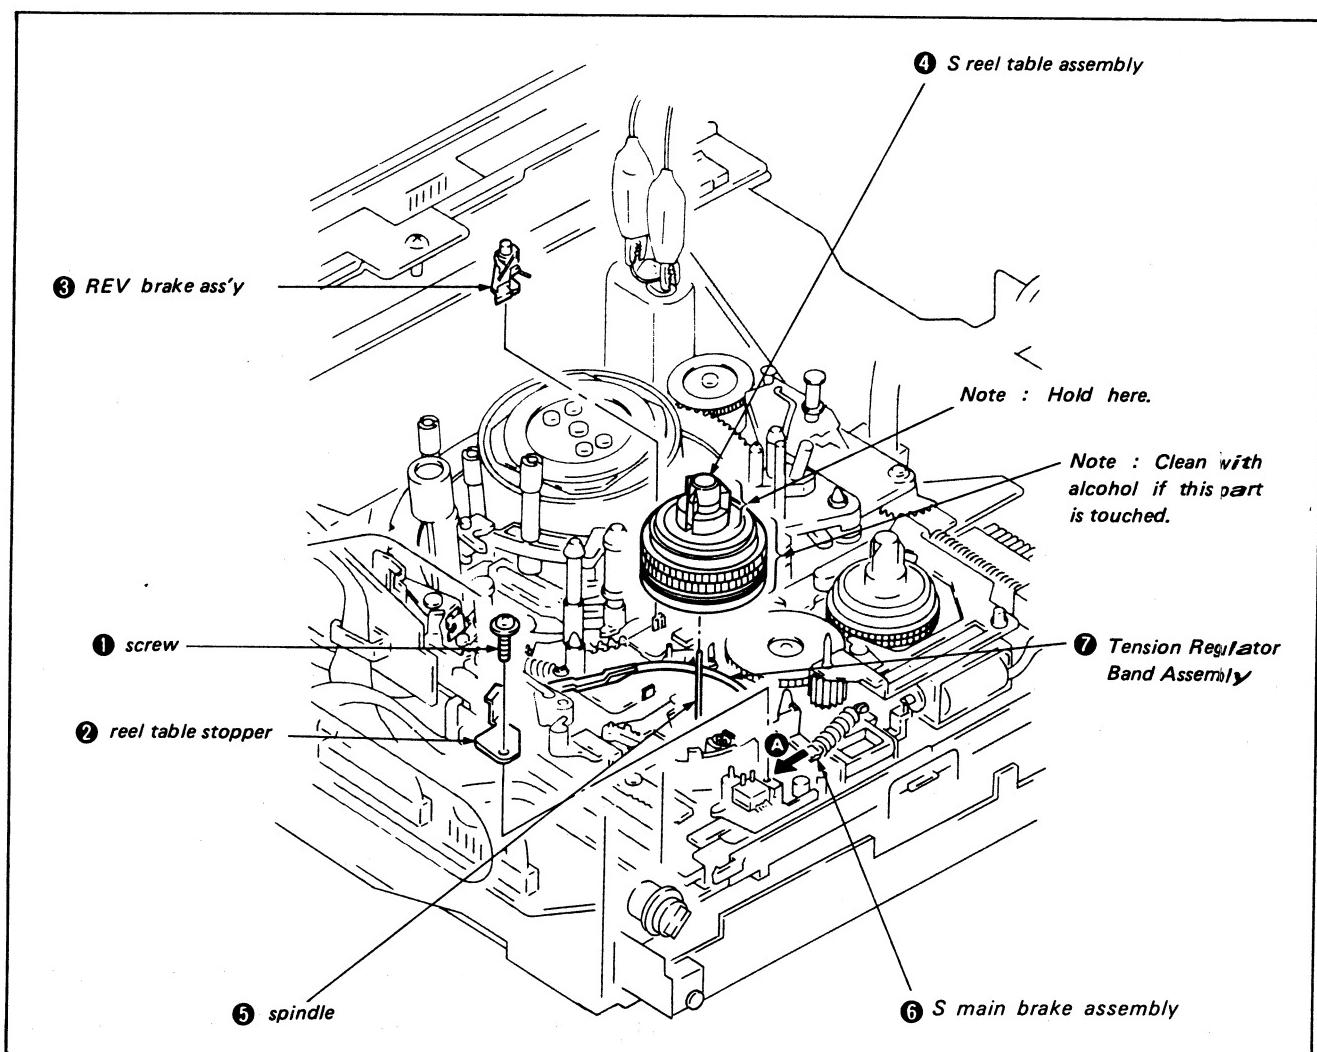
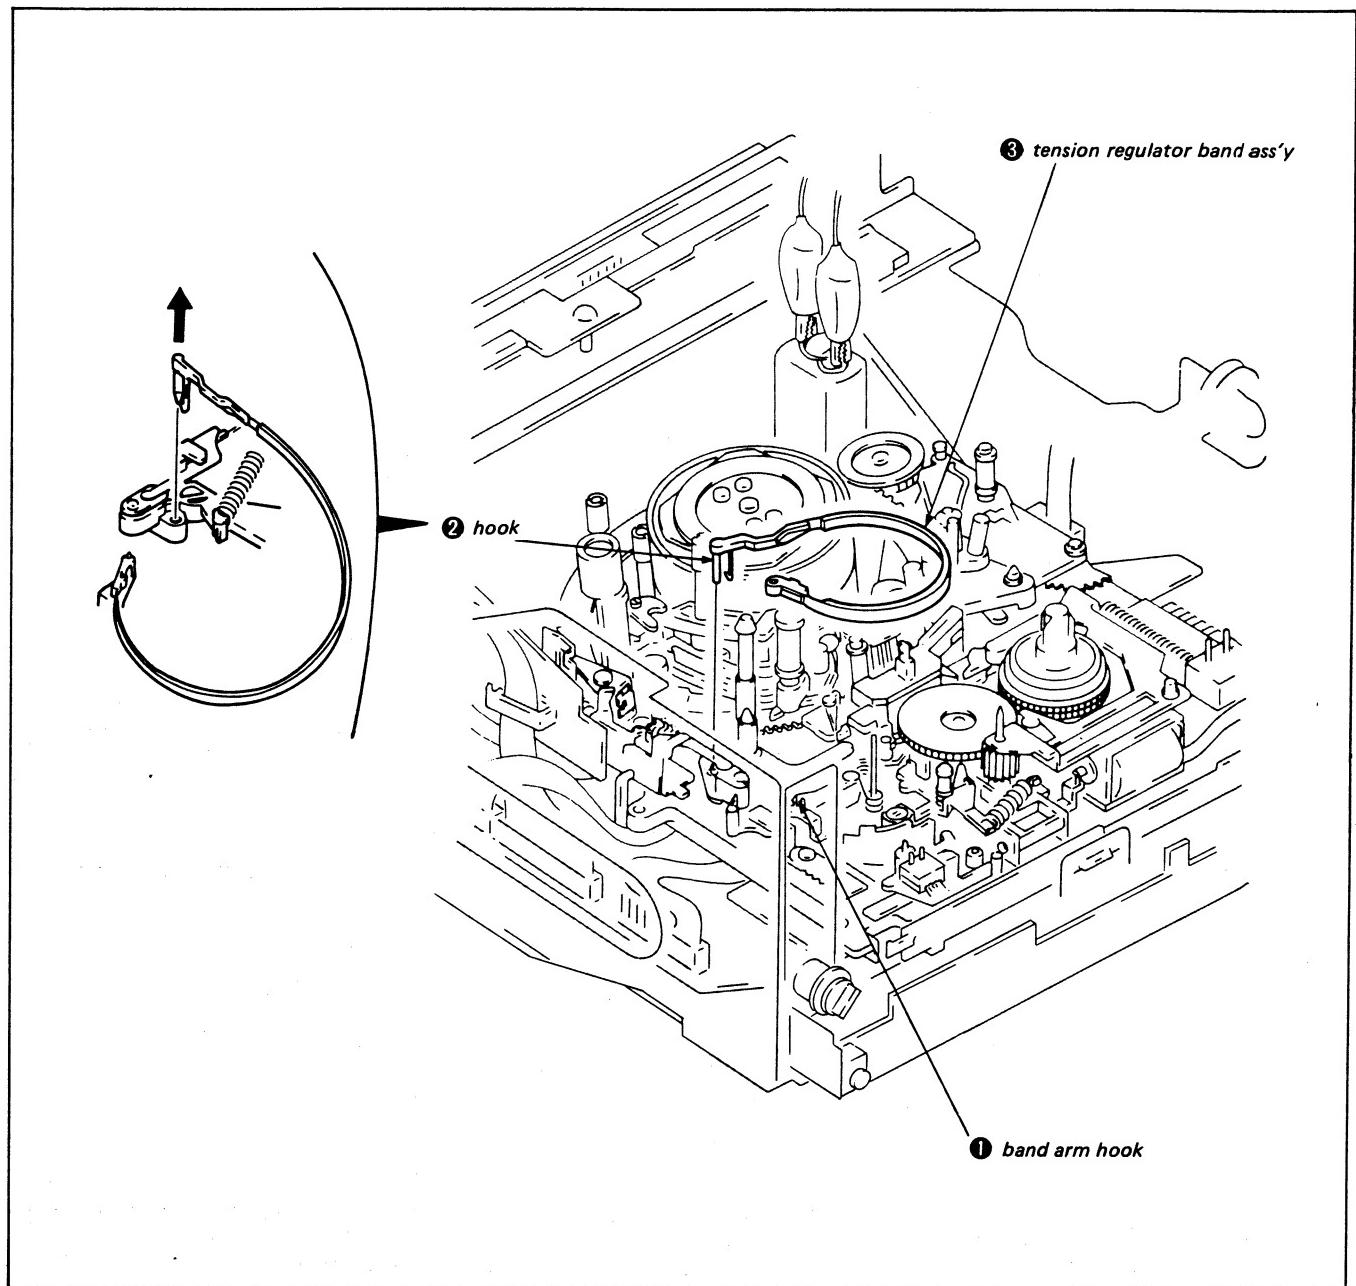

Fig. 3-1.
Fig. 3-5.
- 3) Remove screw **①** and reel table stopper **②**.
- 4) Remove the REV brake assembly **③**.
- 5) Remove the S reel table assembly **④**. (Fig. 3-1)
(See Fig. 3-1)
- 1) Place a half drop of oil on the shaft **⑤** upper surface.
- 2) Move the S main brake assembly **⑥** in the direction of arrow **A**.
- 3) Mount the S reel table assembly **④**, being careful not to hit the tension regulator band assembly **⑦**.
- 4) Mount the REV brake assembly **③**.
- 5) Mount the reel table stopper **②** and tighten with screw **①**. (See Fig. 3-1)
- 1) Remove the S reel table assembly according to item 3-1, 1. Removal. (See Fig. 3-1)
- 2) Remove the band arm hook ①.
- 3) Remove hook ② and the tension regulator band assembly ③. (See Fig. 3-5)
- 1) Mount the tension regulator band assembly ③. (Do not touch the band or change its shape.)
- 2) Fit on the band arm hook ①. (Fig. 3-5)
- 3) Mount the S reel table assembly according to 3-1, 2. Mounting. (See Fig. 3-1)